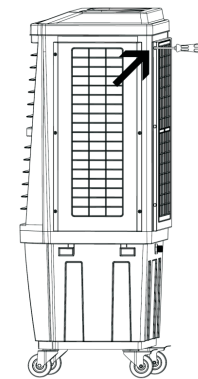

figure 1
1. Loose 6 screws with Philips screwdriver, as figure 1.